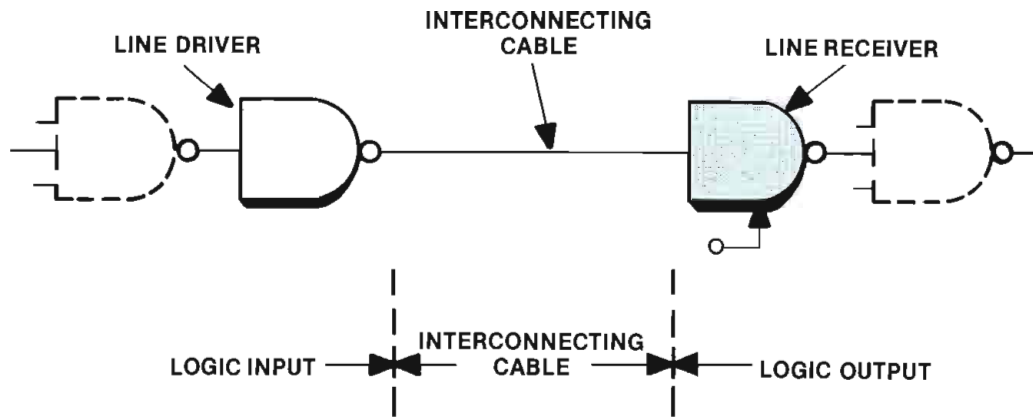

Figure 7. The most familiar of all serial data communications: RS-232.
The most familiar of all serial data communications standards is RS-232, established by the EIA (see Figure 7). Although its use is limited to dedicated data links, this is the only standard commonly used in the broadcast industry that defines all aspects of implementing a serial data link (except for the data rate). As noted previously, RS-232 specifies NRZ encoding. A mark state (1) is established at -5Vdc to -15Vdc while a space state (0) is set at $+5\text{Vdc}$ to $+15\text{Vdc}$.